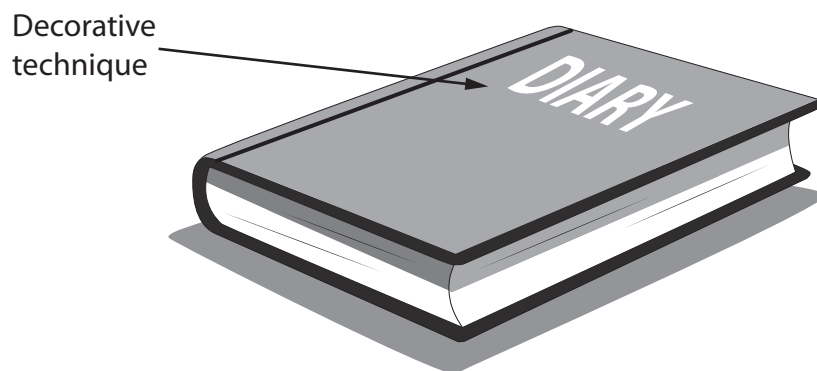

Figure 16
- 8 Figure 16 shows a hardback book.